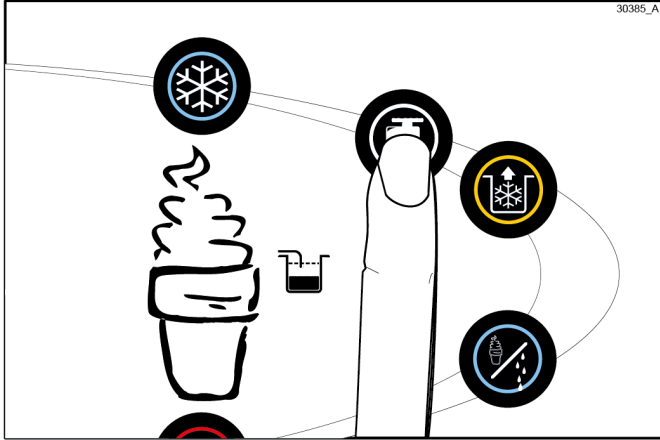

Figure 6-55
- Press the Wash symbol . This will cause the cleaning solution in the freezing cylinder to come in contact with all areas of the freezing cylinder. Wait at least 5 minutes before proceeding with these instructions. (See Figure 6-55.)